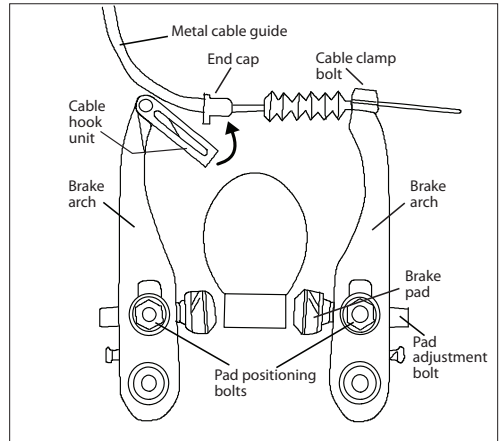

Fig. 34: Assembly of V-brake.
- V-brake (Fig. 34)
V-Brakes (Fig. 34):
- For V-brake equipped bikes, see Fig. 34, page 31.